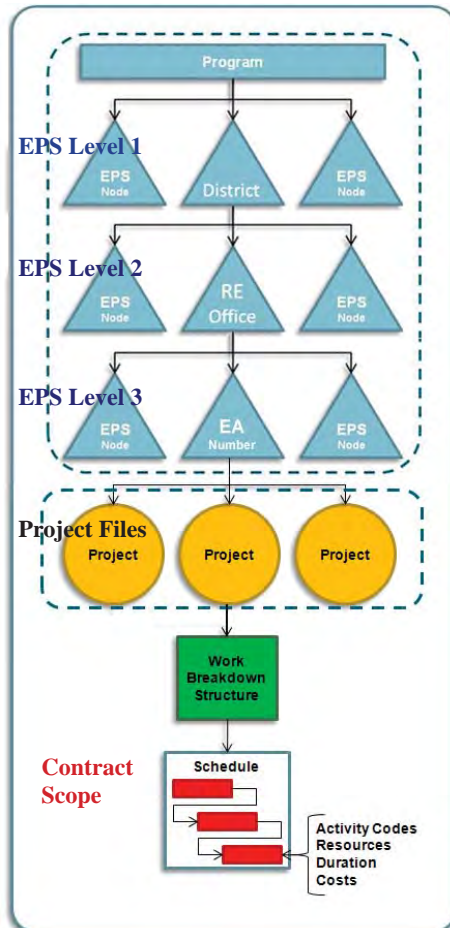

Figure 4-1 Organizational Structure
In **Figure 4-1**, the overall program is represented by multiple EPS levels. Level 1 nodes represent the districts, Level 2 nodes represent an individual resident engineer office, and Level 3 nodes represent a specific project expenditure authorization (EA). In this way, there is a logical grouping of schedules, which provide an intuitive means of drilling down and summarizing.